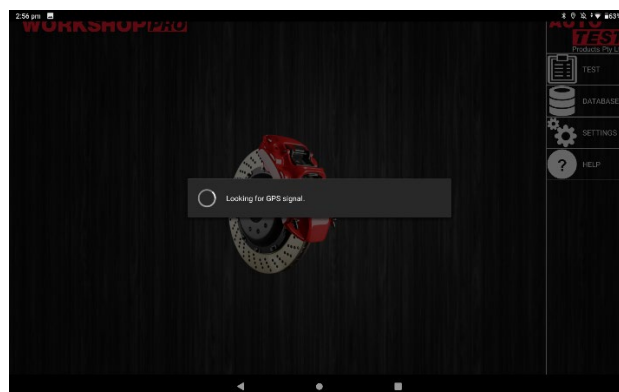

Figure 1
Step 3. The app should begin without interaction and prompt “**Looking for GPS signal**” (Figure 1).